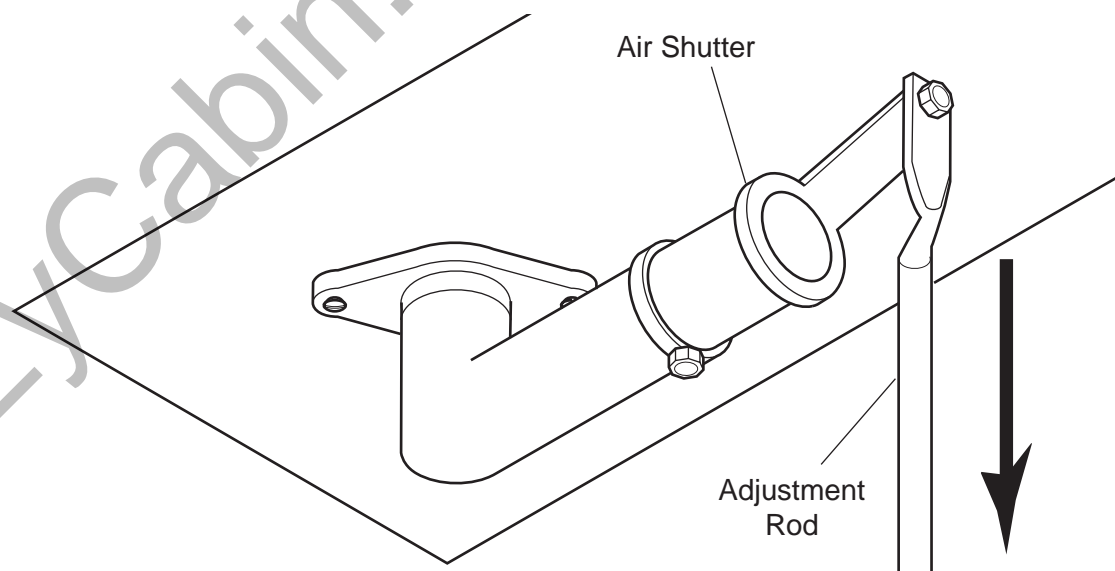

Figure 50 - Pull Adjustment Rod Down to Open Air Shutter
- To decrease air mixture, push up the adjustment rod located beneath the stove. This closes the shutter. Flames will be more yellow. *See Figure 50.*